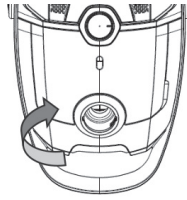

Fig. 11
- Open the front cover by touching front cover button. (Fig 11)